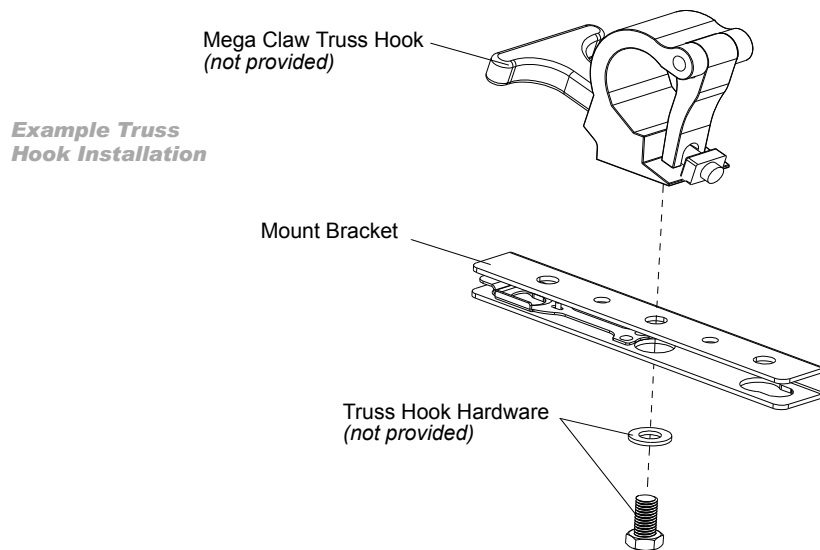

Figure 2-7: Truss Hook Installation
- Step 1. Install truss hooks (also refer to “Truss Hook Hardware \(by others\)” on page 23) for additional information) on two provided truss hook brackets as required as shown in Figure 2-7.
When installing hanging hooks on mounting brackets, Philips Entertainment Lighting strongly recommends the use of a Belleville washer (*by others*, Figure 2-8 shows examples) when installing a truss hook or claw as shown in Figure 2-7.